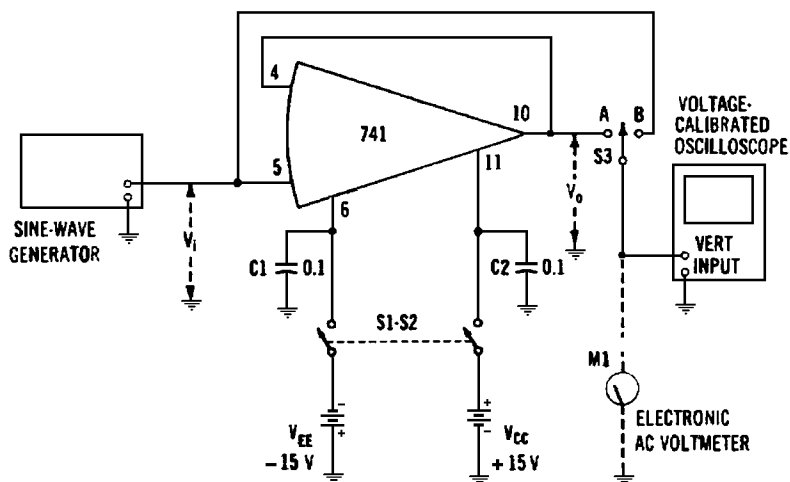

Fig. 2-24. Ac follower operation (noninverting).
#### Required Equipment (Fig. 2-24)
1. With switch S1-S2 open, switch S3 set to position B, the oscilloscope and generator off, and the generator output attenuator set to zero, set up the test circuit as shown in Fig. 2-24.